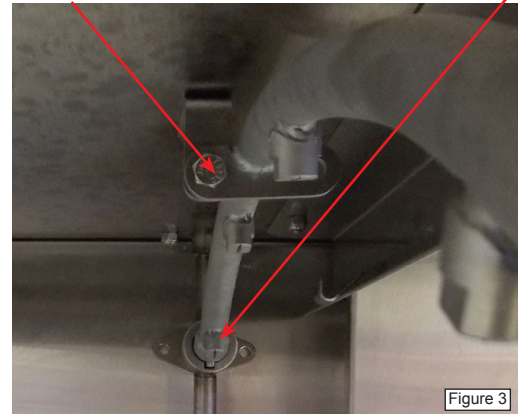

Figure 3
4. Remove rinse arm by removing screw securing rinse arm bracket to bracket attached to hood. Once screw is removed pull rinse arm forward to remove. (see figure 3)